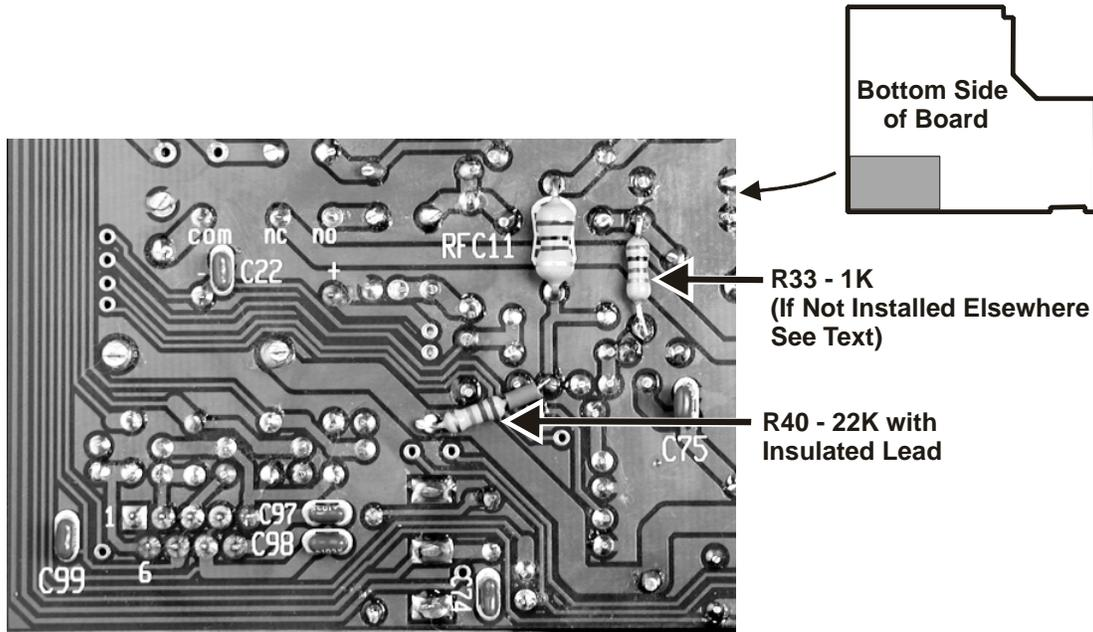

Figure 8. Installing R33 and R40.
- Turn the PCB over and locate the area on the bottom shown in Figure 8.
- Trim and bend the leads of R40 to just reach the two solder pads shown in Figure 8, with the insulated sleeve protecting against shorts to the adjacent solder pads. Solder R40 in place as shown, taking care not to cause a solder bridge to the nearby solder pads.